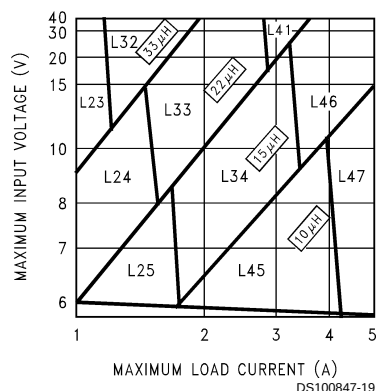
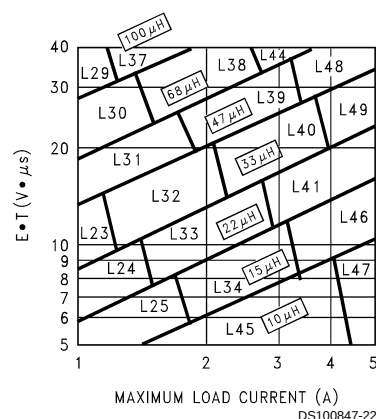

FIGURE 3. LM2679-3.3
FIGURE 6. LM2679-ADJ
Step 3: Determine the inductor required by using one of the four nomographs, *Figure 3* through *Figure 6*. Table 1 provides a specific manufacturer and part number for the inductor.
Step 5: Determine an input capacitor from Table 4 for fixed output voltage applications. Use Table 2 to find the specific capacitor type. For adjustable output circuits select a capacitor from Table 2 with a sufficient working voltage (WV) rating greater than $V_{in\ max}$, and an rms current rating greater than one-half the maximum load current (2 or more capacitors in parallel may be required).
Step 3: Use the nomograph for the 3.3V device, *Figure 3*. The intersection of the 16V horizontal line ($V_{in\ max}$) and the 4A vertical line ($I_{load\ max}$) indicates that L46, a 15 μ H inductor, is required.
Step 3: To use the nomograph for the adjustable device, Figure 6, requires a calculation of the inductor Volt•microsecond constant ($E \cdot T$ expressed in $V \cdot \mu\text{s}$) from the following formula:
Using Figure 6, the intersection of $27V \cdot \mu\text{s}$ horizontally and the 3.5A vertical line ($I_{load} \text{ max}$) indicates that L48, a 47 μH inductor, or L49, a 33 μH inductor could be used. Either inductor will be suitable, but for this example selecting the larger inductance will result in lower ripple current.
Important Note: When using the adjustable device in low voltage applications (less than 3V output), if the nomograph, Figure 6, selects an inductance of 22 μH or less, Table 6 does not provide an output capacitor solution. With these conditions the number of output capacitors required for stable operation becomes impractical. It is recommended to use either a 33 μH or 47 μH inductor and the output capacitors from Table 6.